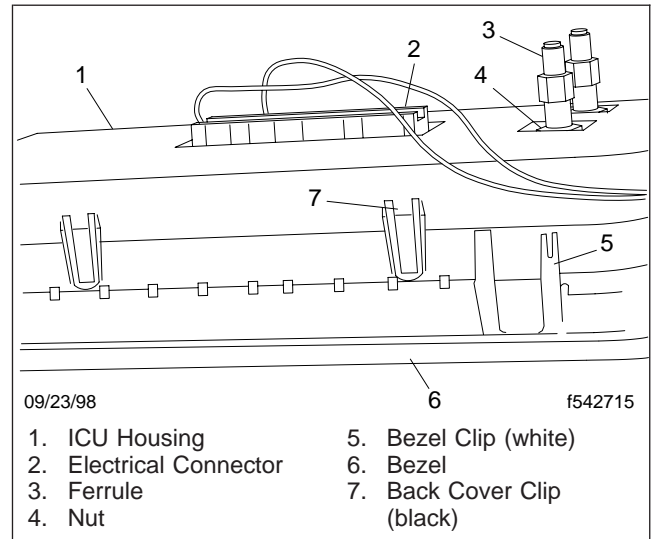

Fig. 2, Back Cover Installation
3. Pry off the five small black clips from the sides of the ICU housing. Remove the back cover from the ICU housing. See **Fig. 2**.